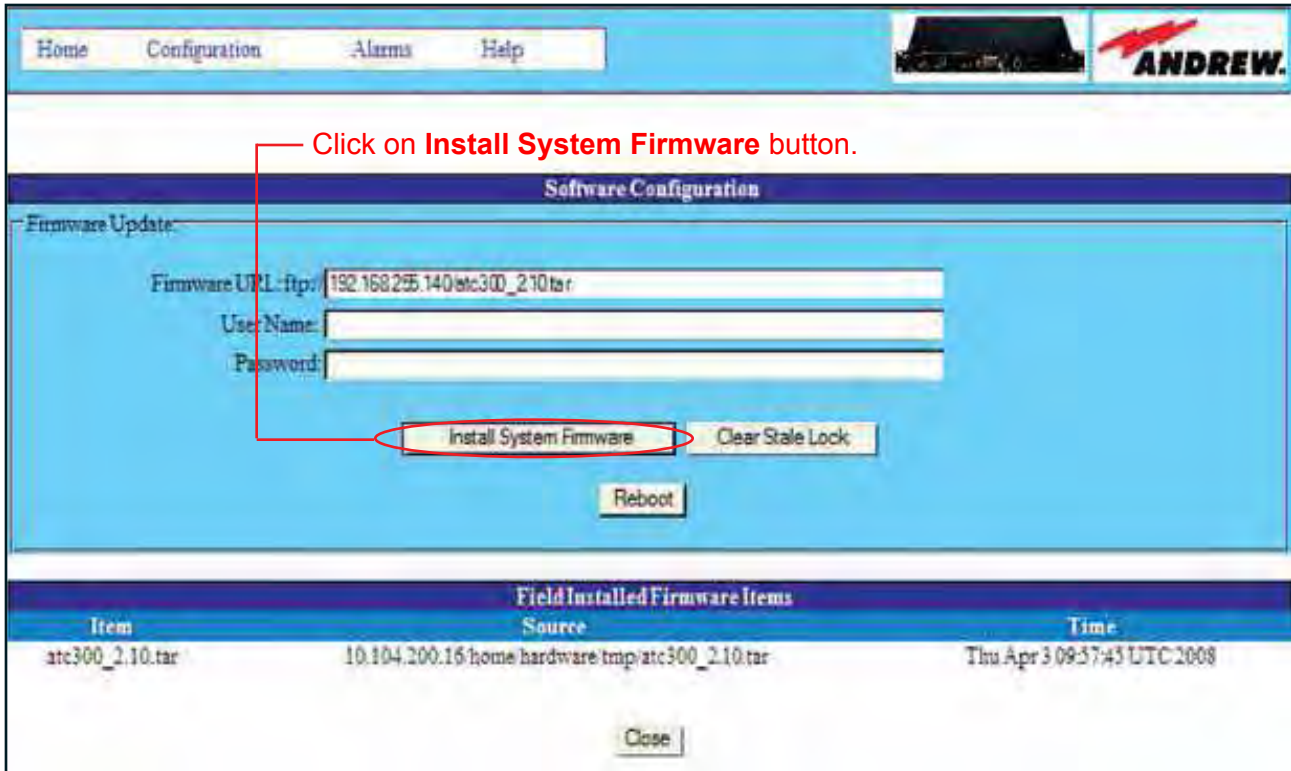
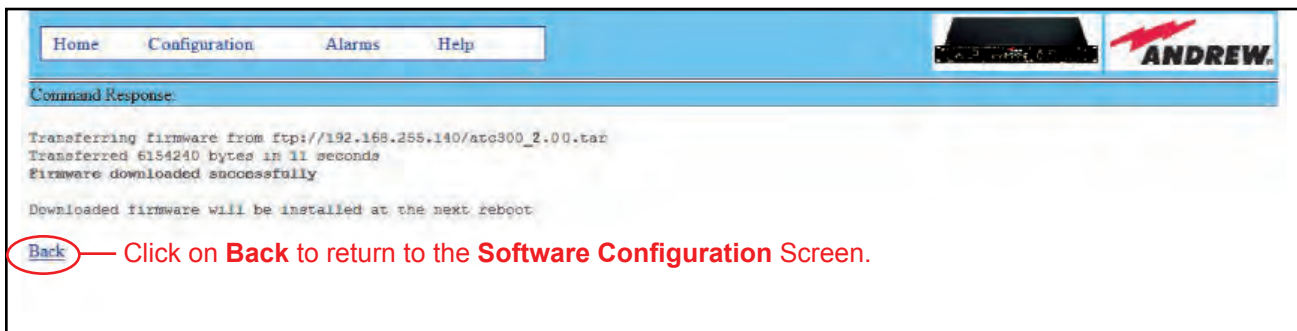

Figure C-4. Entering PC's Network IP Address To Install Software.
Figure C-5. Successful Software Install Response Screen.
(ATC200 and ATC300 2.32 and earlier) In the Firmware URL window, type in the IP address IP address for the PC that is running the FTP Server (and holds the software files), followed by a forward slash and the name of the file that is to be uploaded. Leave the **User Name** and **Password** blank. The text typed into the **Firmware URL** edit box should look similar to the example shown in Figure C-4.
In Figure C-4, the IP address is **192.168.255.140** and the file to be uploaded is **atc300\_2.10.tar**.
To upload the file, click on **Install System Firmware** (Figure C-4). Feedback from a successful install should look similar to that shown in Figure C-5.
5. Click the link labeled **Back** to return to the **Software Configuration** screen (Figure C-5).